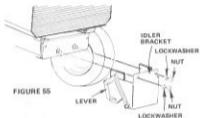

FIGURE 55
2. Remove Lockwashers and Nuts from Idler Bracket (Fig. 55).